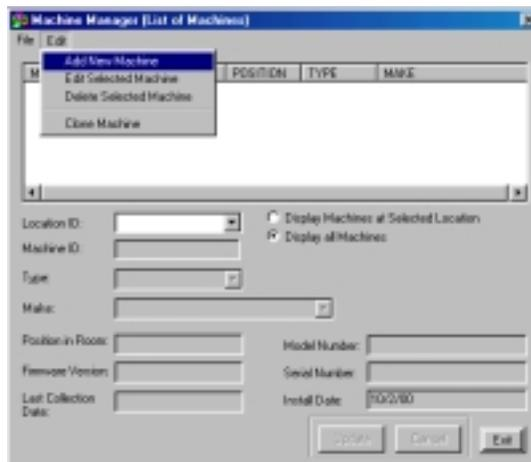

Figure 3.6 Adding a New Machine
2. In the Machine Manager dialog box, select **Add New Machine** from the Edit drop-down menu (Figure 3.6).